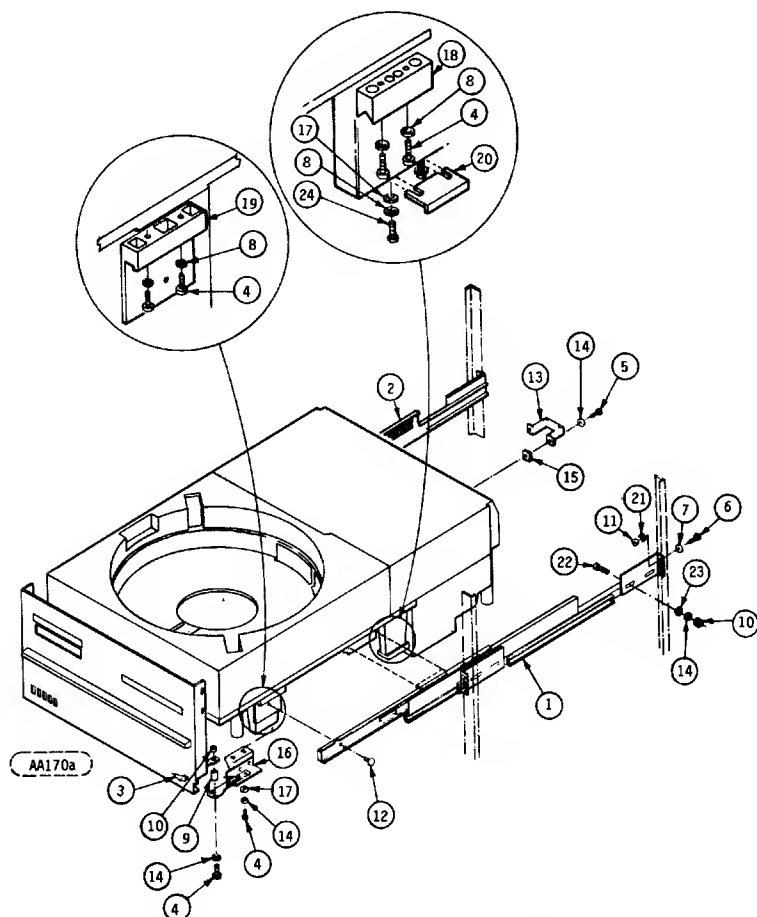

FIGURE 3-6. RACK ASSEMBLY MOUNTING
1. Install plastic slide mounts item (18) and plastic keyed slide mounts item (19) at the sides of the unit as shown in Figure 3-6. Mounting hardware for each of these items consists of two 8-32 x 5/8 inch (31.8 mm) pan head machine screws (4) and two No. 8 internal tooth lock washers (8). Place item (26) on ribbon cable directly behind keyed slide-mount on unit's left side.
For correct orientation of the unkeyed mounts, the V Groove channels in the mounts should open downward. The flat side of the keyed mounts should be inboard and pointing downward, see Figure 3-6.
2. Install plastic stabilizers item (20) at the sides of the unit as shown in Figure 3-6. Mounting hardware for each of these items consists of two 8-32 x 1/2 in. (12.7 mm) pan head machine screws (24), two No. 8 internal tooth lock washers (8), and two No. 8 flat washers (17).
10. Place Loctite (Grade C) on 8-32 x 5/16 (7.94 mm) pan head screws (12) and install through each slide into keyed mount-slide.
12. Install knob assembly item (3) and latch assembly item (16) together and in the unit as shown in Figure 3-6.
Hardware used to attach the knob assembly to the latch assembly consists of one each 8-32 x 5/8 inch (15.9 mm) pan head machine screw (4), No. 8 internal tooth lock washer (14), 8-32 x 1/4 inch (6.4 mm) spacer (9), and 8-32 hex machine nut (10). Reference: Figure 3-6.